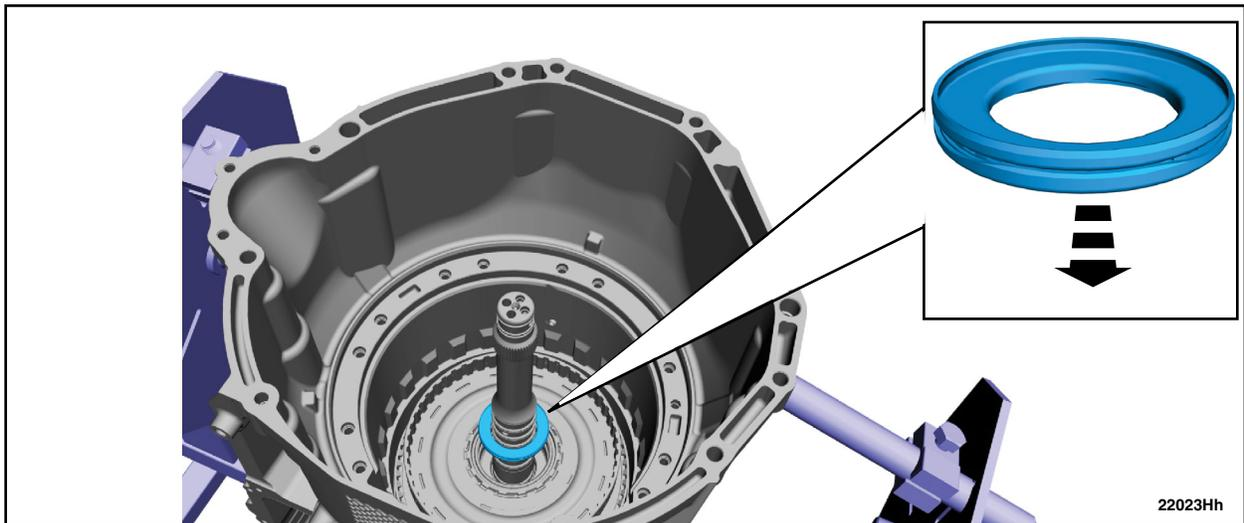

FIGURE 44
50. Install the (T3) thrust bearing. See Figure 44.